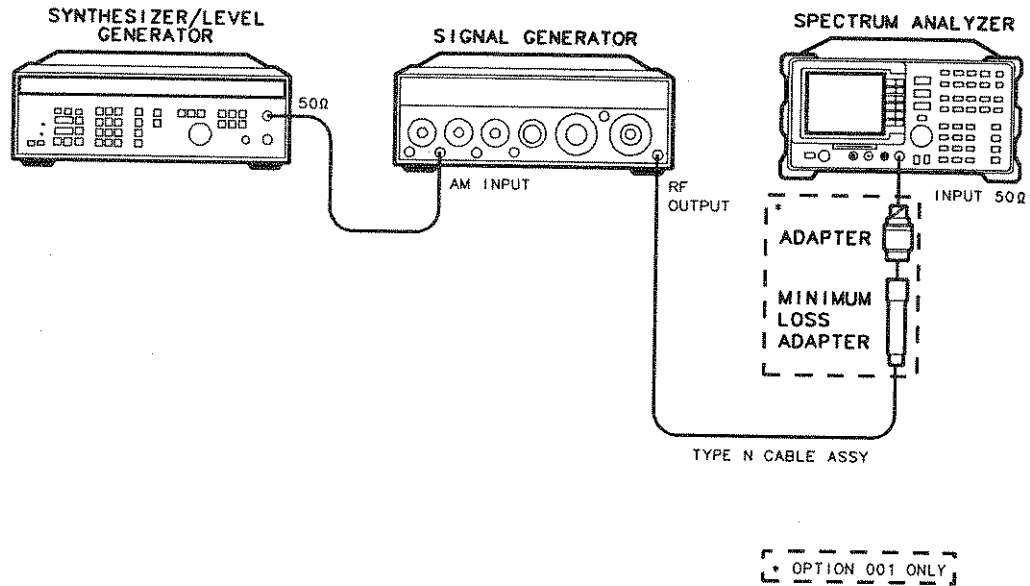

Figure 3-25. Fast Sweep Time Test Setup, Option 101
- Connect the equipment as shown in Figure 3-25.